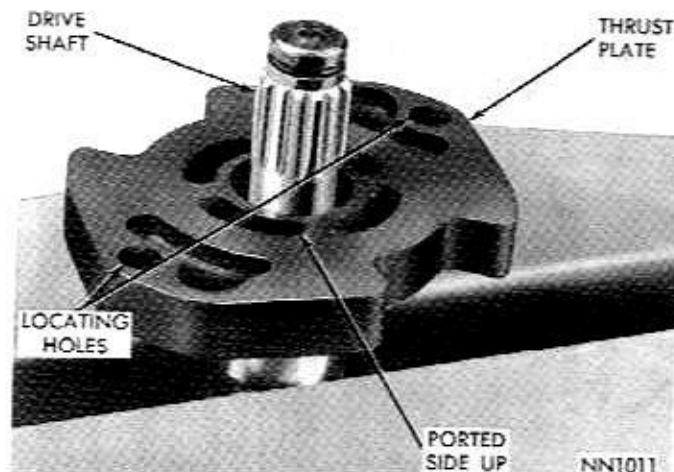

Fig. 12—Installing Thrust Plate
(4) With drive shaft clamped splined end up in soft jawed vise, install thrust plate on drive shaft (smooth, ported side up) (Fig. 12).